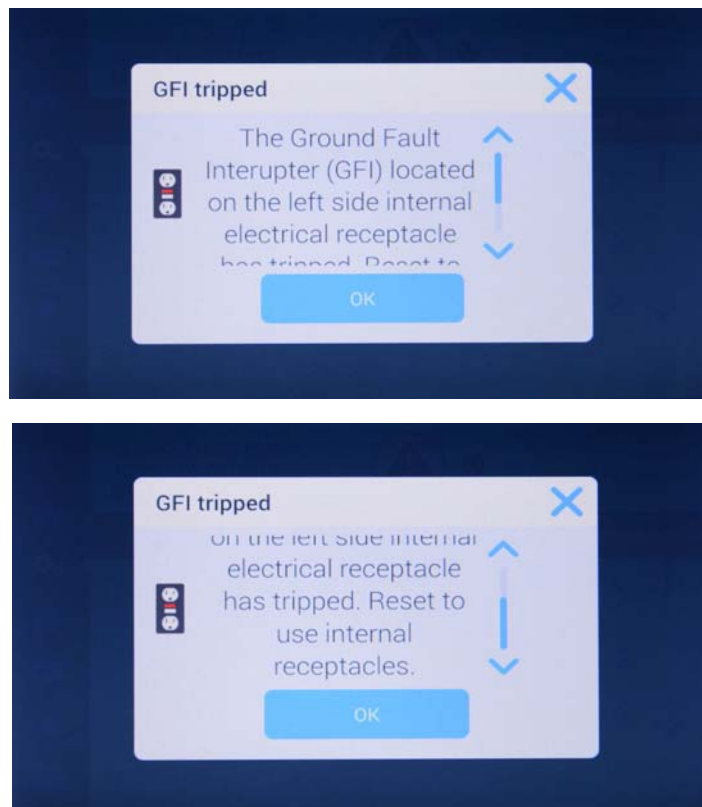

Figure 62 GFI Tripped Alert Details Screen
4. Tap any entry in the alarm list to view additional details, as in the GFI Tripped (US versions only) example in Figure 62 below.